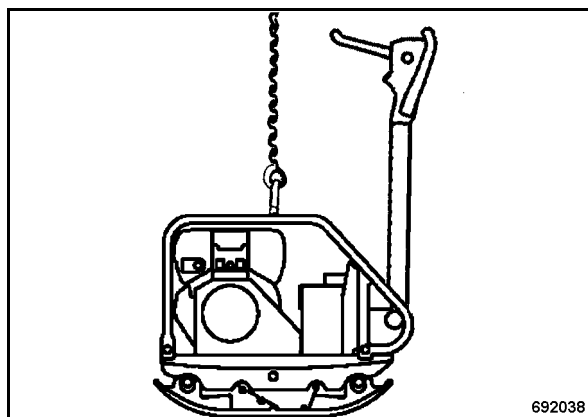

Fig. 31
- Always attach the lifting gear (rope) to the lifting eye to load the vibratory plate (Fig. 31) on a transport vehicle.